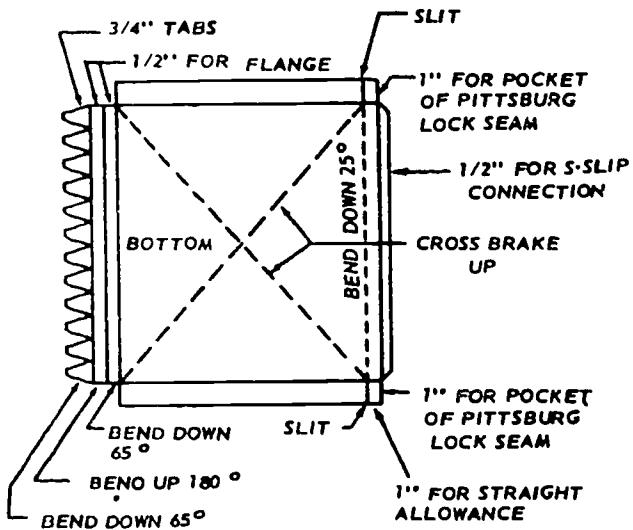

Figure 2-20. Making allowances for S-and-drive connections, Pittsburg lock seams, and tapped connections.
**Making a flat pattern.** From the information shown in figure 2-19, it is not difficult to develop the flat patterns shown in figure 2-20. You should remember from the sheet metal layout chapter in Volume 3 that the first step is to draw a plan view with the dimensions, as shown in figure 2-20. From the plan view, you develop the pattern (stretchout) by the parallel line method (except for the slanting sides). The pattern for the top and sides is in one piece because you will use two Pittsburg lock seams to join the bottom piece. Lay out flat pattern A by drawing a straight line (stretchout) equal to the perimeter of the top and two sides. Next, draw the two perpendicular element lines where the corners of the joint will be folded. The length of the upper stretchout line in view A is equal to the perimeter of the 12- by 6-inch opening of the transition. With the ends of the two stretchout lines connected, you can determine the length of the slanting sides (true length). Flat pattern B for the bottom of the takeoff fitting is the same length as the slant length of the side that it will join.
**Making allowances.** After you have laid out the flat patterns, the next step is to determine the seam allowances and additions, shown in figure 2-20. This includes the allowances and for the S-and-drive slip connections, the Pittsburg lock seams, and the tapped connection. It doesn't make any difference which allowance you develop first. We have elected to develop the allowances for the S-and-drive slips first. They require a  $\frac{1}{2}$ -inch allowance on both patterns. You make the allowance for the Pittsburg lock seams by allowing  $\frac{1}{4}$  inch on each of the slant sides in pattern A (fig. 2-20) and 1 inch on two sides of pattern B. Make the allowance
**Notching.** After you have determined and marked the allowances, cut the notches and slits, as indicated on patterns A and B of figure 2-20. Each notch that forms a 3/4 inch tab requires two cuts and is placed 1 inch apart in this example. However, in other patterns, the length of each tab may be less or greater depending on the strength desired, on the size of the takeoff fitting, and on the effort needed to reach and turn down the tabs after you have joined the fitting to the duct. Notice that each end of the S-and-drive connection allowance is notched with a 45° cut. The ends of the Pittsburg lock seam pocket allowance in pattern B are notched (cut) at 90° angles.
**Forming** You can make all of the bends indicated in figure 2-20 with a cornice brake, a mallet, and a Pittsburg lock-forming machine. It is important to follow the proper sequence for making the bends so the top leaf of the cornice brake will not crush a fold already made. For example, cross brakes are always made first, but the sequence of other bends may vary depending on the shape and direction of the bends. A sequence that works in most cases for square or rectangular duct components is as follows: (1) make the cross brake, (2) bend the side allowances according to the seam procedure, (3) bend the end allowances according to the procedure for the type of joint, and (4) make the corner bends indicated on the pattern.
To make the bends for the takeoff fitting (fig. 2-20), the first step is to do the prescribed cross braking. Pattern A (piece A) is placed in the cornice brake so that the metal is at a 45° angle to the top leaf, the metal is clamped with the top leaf, and the bending leaf is raised 10° to 15°. Repeat this procedure along the other cross brake lines.
The third step for piece A (fig. 2-20) is to make the bends that will be at the two ends of the takeoff fitting. Make the bends for the tapped connections with the cornice brake, as described in the next paragraph.
Step 4 of the forming process for piece A in figure 2-20 is to use the cornice brake to make the two 90° corner bends. Make the first corner where the top side and the left side meet, with the pattern positioned at the left end of the cornice brake. This prevents damaging the flange of the tapped connection. Next, bend the 90° corner, where the top side and the right side meet, in the same way. This is the final step for piece A, which should now look like a finished takeoff except for the sloping bottom, not yet in place.
Pattern B (piece B), the bottom of the takeoff (fig. 2-20), is formed by a similar sequence. The first step is cross braking the pattern along the diagonal lines. The second step is making the pocket side of the Pittsburgh lock seams on the 1 inch allowance on each side of the bottom piece. Do this with a Pittsburgh lock-forming machine if available; if not, with a cornice brake. The third step is forming the flange for the tapped connection end of the takeoff. You must make a 25° bend downward along the straight allowance line, returning the bottom to the same plane as the duct branch. When you are making this 25° bend, do not use excessive clamping pressure with the top leaf of the
*Assembly and joining.* The takeoff fitting, which we have discussed in the preceding paragraphs, is easy to assemble. Place piece A (fig. 2-20) so that it rests on the top side. Install the bottom piece (B) so that the 1/4 inch flanges of the two sides fit into the pockets of the Pittsburgh seam, and the locking edges of the Pittsburgh seam are folded over. This completes the assembly, and you can join the takeoff fitting to the hole in the trunkline by inserting the tabs into the hole until the flange rests against the edges of the hole. Bend the tabs